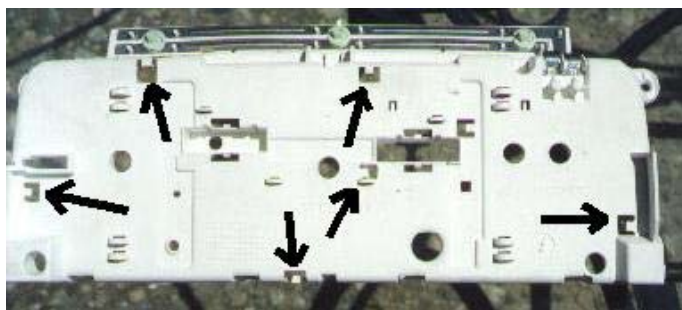

Figure 4
3. Remove the cluster PC board from its housing. Remove the 2 torx screws in the upper left corner of the board. Locate the 6 board retaining tabs. See Figure 4.